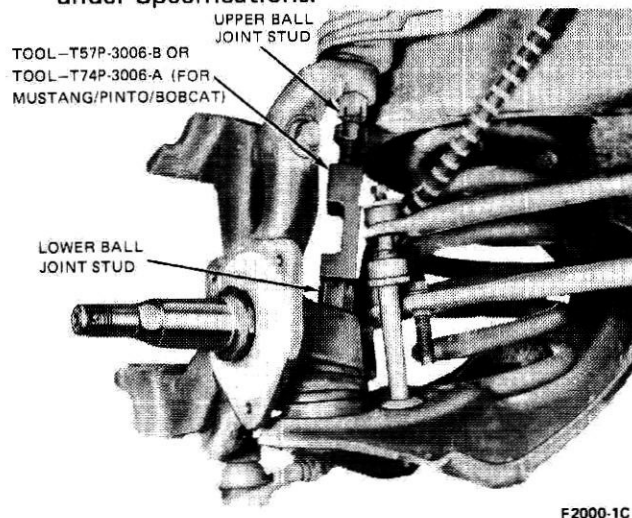

FIG. 4 Loosening Lower Ball Joint Stud — All Cars
7. Install Tool T57P-3006-B (for all except Pinto, Bobcat and Mustang II) or T74P-3006-A (for Pinto, Bobcat and Mustang II) between the upper and lower ball joint studs (Fig. 4). The tool should be seated firmly against the ends of both studs and not against the stud nuts. See tool application at the end of this Part under Specifications.